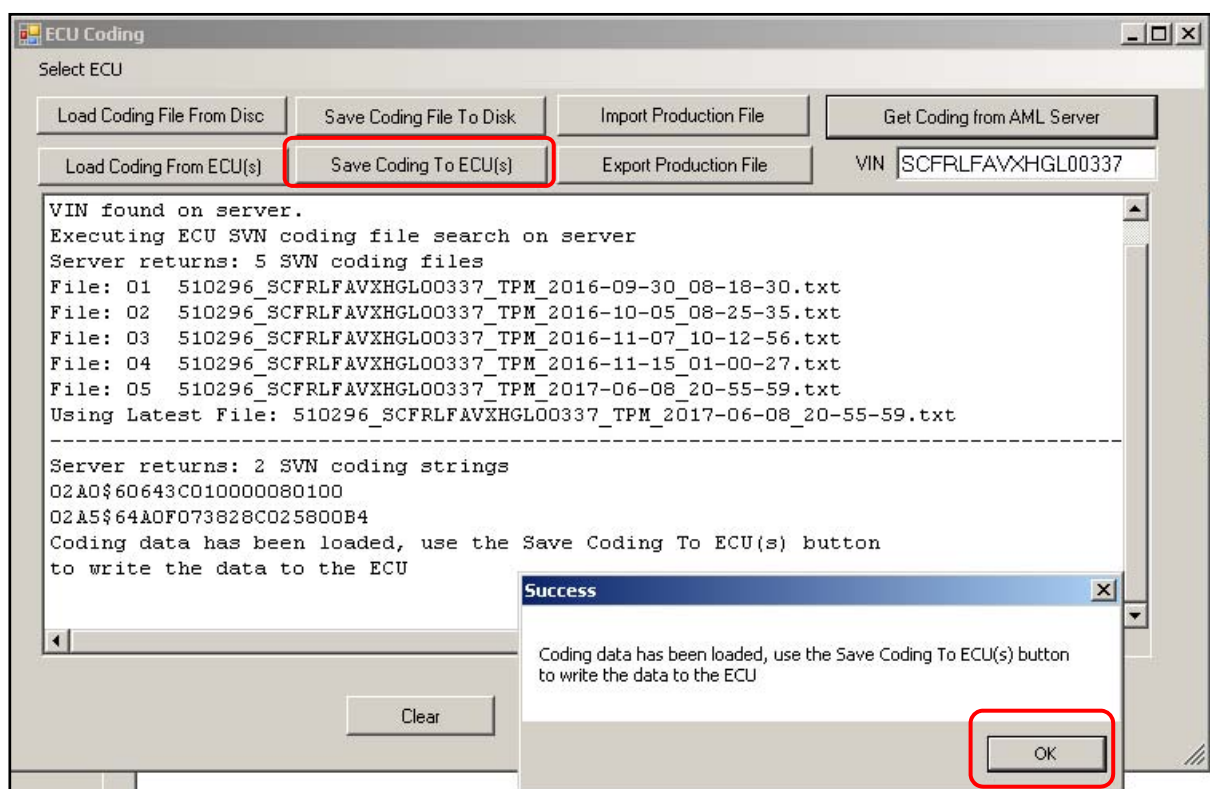

Figure 4
7. If the files are correctly downloaded, click "OK". To write the Coding Data to the module, click the "Save Coding to ECU(s)" (refer to Figure 4)